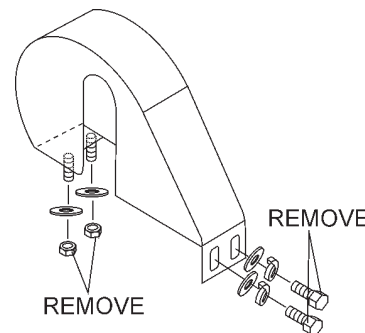

Figure 14. V-Belt Cover
1. Remove the bolts that secure the V-belt cover (Figure 14) to the saw frame.